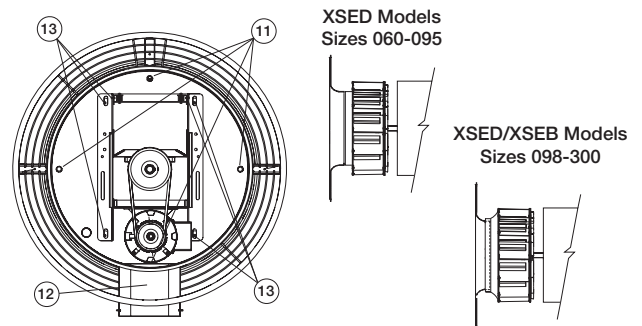

Figure 4
4. During shipping, wheel position may shift. Alignment should be as shown above (centered in the inlet) and can be accomplished by loosening the fasteners (11) located in the motor compartment. For belt drive units, additional vertical alignment can be accomplished by loosening the four fasteners on the drive frame support angles and the two fasteners that hold the L-brackets to the support angles on top (13). Also, horizontal alignment can be made by loosening the bearings from the bearing plate.
Removal of the entire power pack (motor, drives and wheel) for maintenance or cleaning can be accomplished by removing the breather tube (12) and fasteners (11). *Reference Figure 4.*